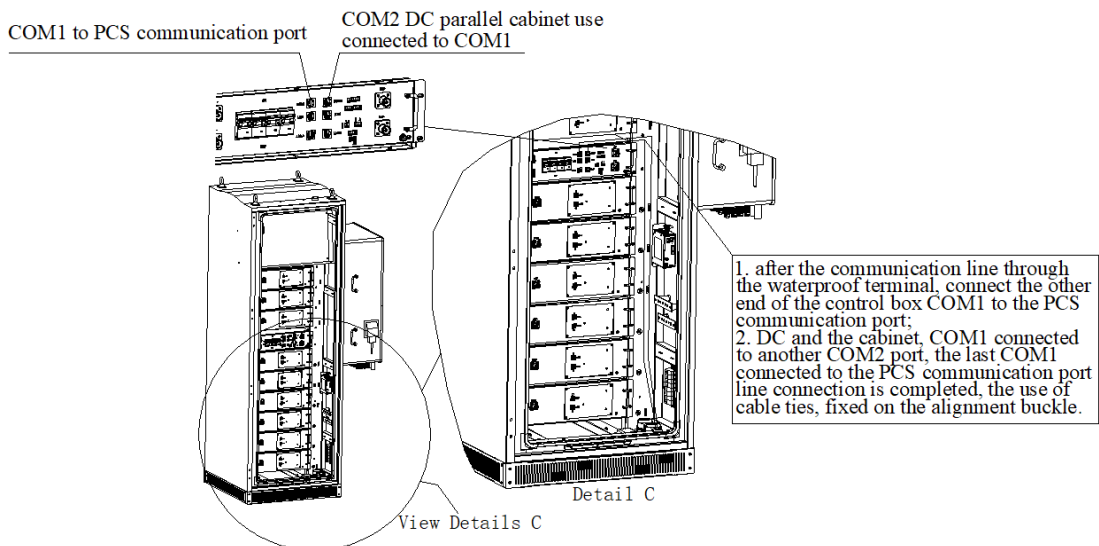

Figure 3-15 Communication Connection Diagram
**Step 2:** The cable passes through the outlet hole at the bottom of the cabinet and is connected to the inverter COM, as shown in Figure 3-15.